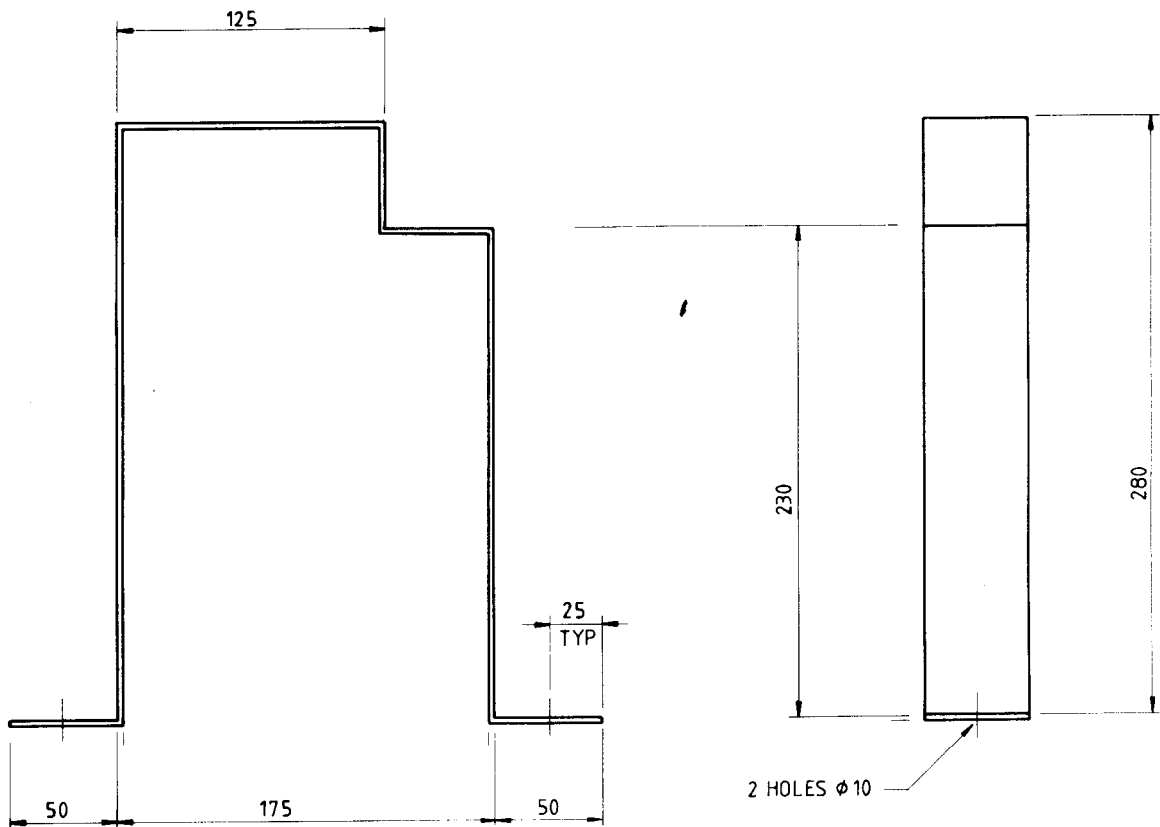
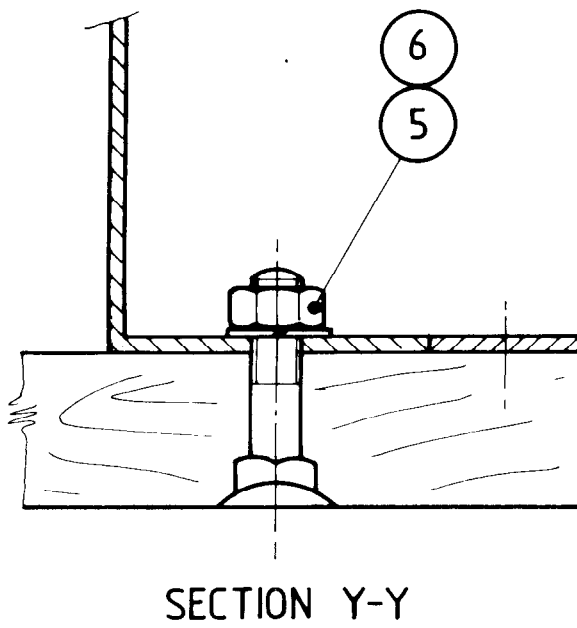

FIG 3 - JACK SUPPORT BRACKET
FIG 4 - JACK SUPPORT BRACKET SECURING DETAIL
- b. Bend the metal bar, item 4 from Table 1 to form the jack support bracket as shown in Fig 3.
- c. Drill two 10 mm holes in the jack support bracket as shown in Fig 3. Secure the jack support bracket to the insert in the position shown in Fig 1 using the bolts, nuts and washers, items 5 and 6 from Table 1. Ensure that the bolt head is recessed as shown in Fig 4, to allow the timber insert to sit flat across the tool box floor.